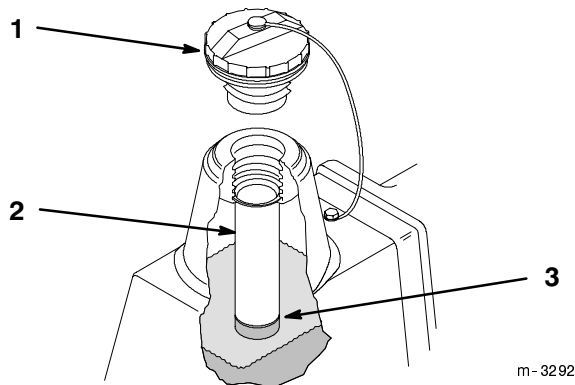

Figure 77
2. Clean area around filler neck of hydraulic tank (Fig. 77).
3. Remove cap from filler neck and look inside to check fluid level. Fluid level should be above the bottom of the screen (Fig. 77).
4. If level is low, add fluid to raise level to above the bottom of the screen (Fig. 77).